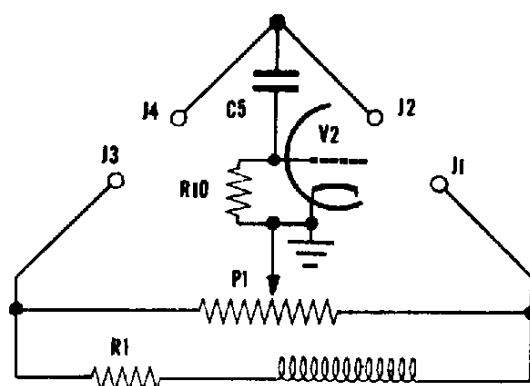

Fig. 6
- Fig. 6. Bridge circuit for "COMPARATOR" range.